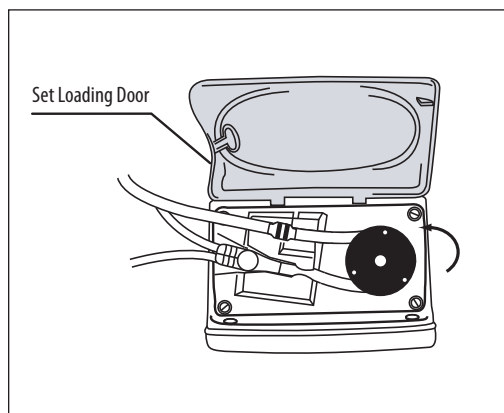

Figure 6B.
**Avoid overstretching the silicone tubing. (Figure 6B).**
4. Carefully pull the MISTIC retainer end left and upwards to position it over the slot on the left, and then lower the retainer into the slot. Push down on the retainer then release to ensure proper engagement. (Figure 6B)